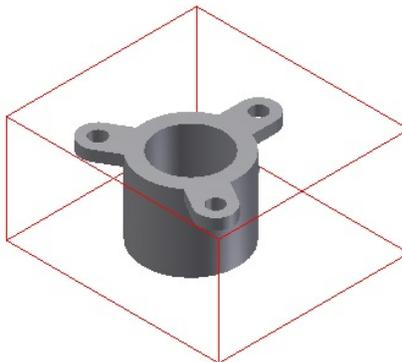

Figure 19-72 Preview of the workpiece displayed
2. Select the **Rectangular** option from the **Workpiece Type** drop-down list in the dialog box; preview of the workpiece is displayed in the modeling area, refer to Figure 19-72.